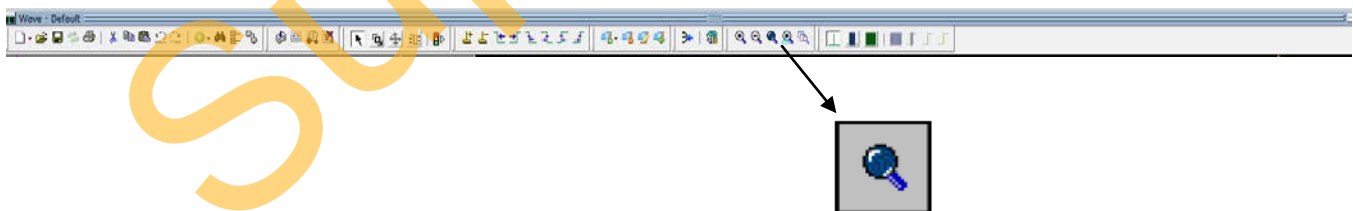

Figure 37. Zoom Full
2. Once the Wave window has been undocked, click the **Zoom Full** button to fit all the waveforms in the single view (Figure 37).